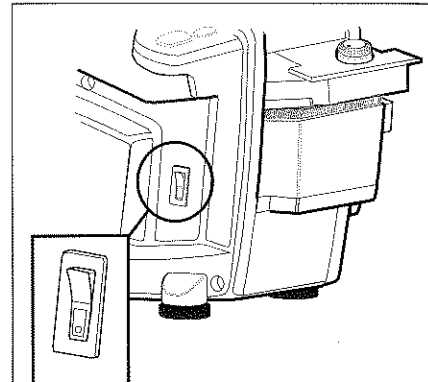

FIGURE 12 – Power Switch Location
1. Ensure that the power switch is in the OFF (down) position. See Figure 12.